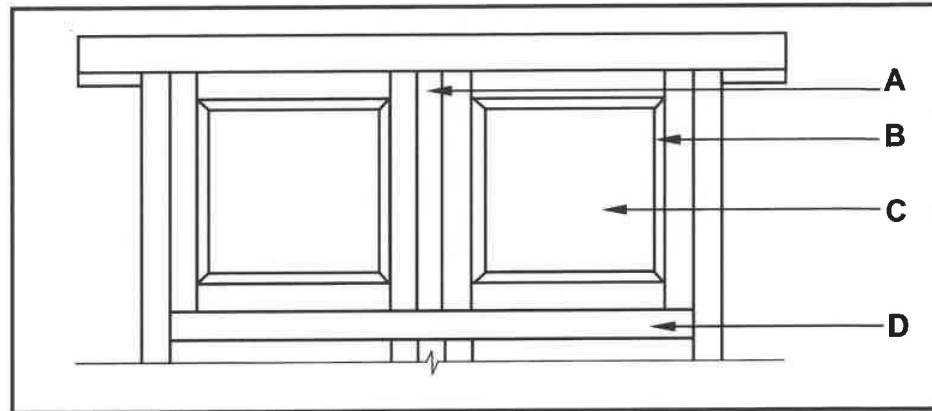

FIGURE 3.1
- 3.1 FIGURE 3.1 below shows a portion of the external elevation of a double casement with fanlights.